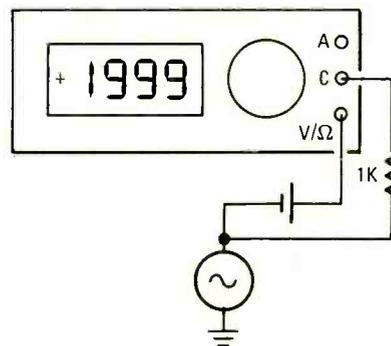

FIG. 2—COMMON MODE REJECTION ratio is measured in much the same way as NMRR. Neither terminal of the meter may be grounded during the measurement.
**Common Mode Rejection Ratio.** CMRR specifies the instrument's ability to reject signals applied between earth ground and a point common to the high and low input terminals of the instrument. There is no CMRR specification if the instrument's low terminal is at earth ground. Fig. 2 indicates